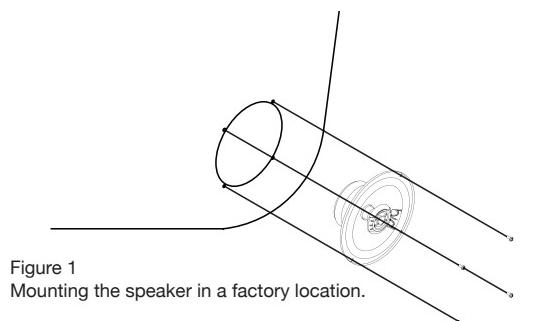

Figure 1
1. Many vehicles already have factory locations (Figure 1) to house the "DROP IN" feature of the R Coaxial speakers. If no existing locations are available or are not used, check the desired location for adequate cutout area and any depth obstructions. Make sure to allow sufficient clearance for window tracks, structural braces, trunk lid springs, etc.
Phoenix Gold has provided a foam mounting gasket. When installing your new component speakers in a factory location make sure to use the foam mounting gasket as shown in figure 1. For reverse mounted speakers place the foam gasket in front of the speaker. This will ensure an air tight seal for your R speakers.